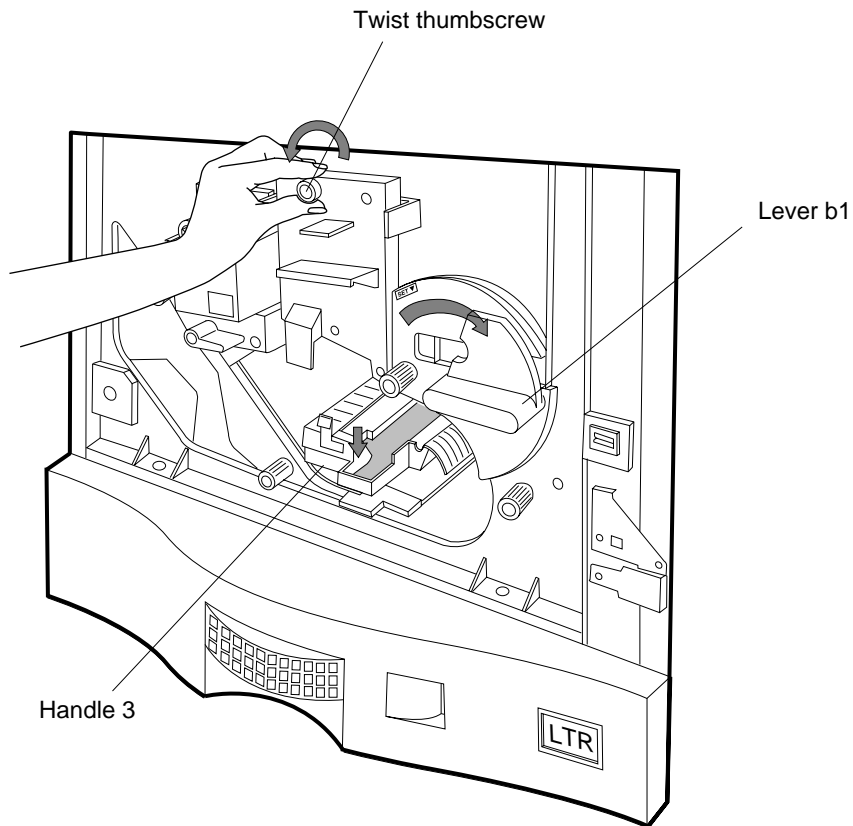

Figure 4-25 Releasing the Drum
1. Turn drum locking knob counterclockwise two or three turns to unlock the drum, as shown in Figure 4-25.